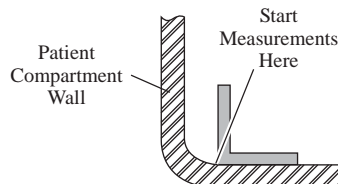

Figure 2 - Measuring on a Contoured Floor/Wall
1. Use a framing square (carpenter's square) to locate and mark the place closest to the wall where the floor becomes flat (Figure 2).